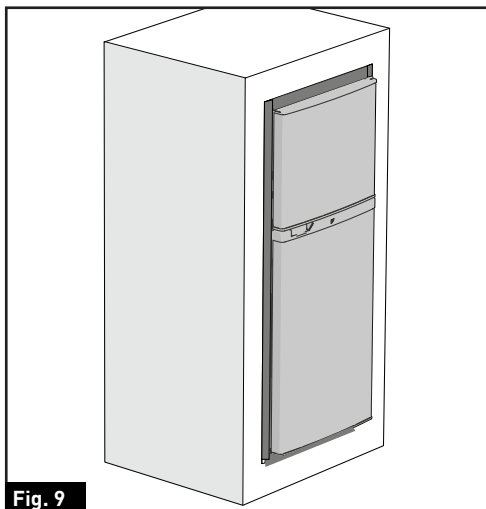

Fig. 9
6. The refrigerator is now fully installed into the enclosure. (Fig. 9)